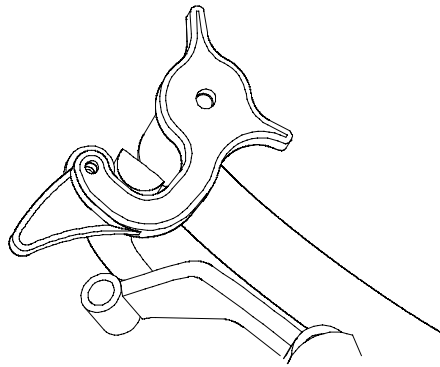

FIGURE 21
1. With rear of machine still on jack stands and engine running at full throttle, disengage the park brake and move the speed control lever to the midway position. Move the respective drive lever upward until it reaches the **neutral** position and engage neutral lock latches. See Figure 21. If the tire rotates in either direction, the length of the drive lever link will need to be adjusted.